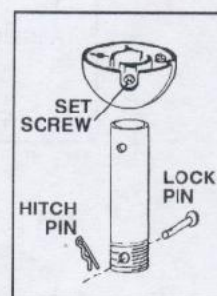

FIG. 8
Step 3. Remove downrod hanger ball by loosening set screw, removing the cross pin, and sliding ball off rod. Remove the hitch pin and lock pin. (Fig. 8)